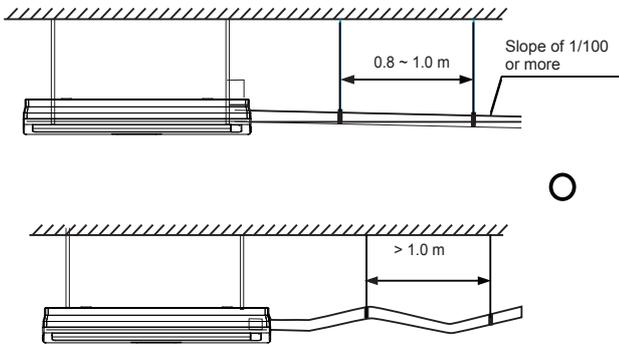

Figure 5.1
4. In order to prevent the back-flow of water into the interior of the air conditioner when the operation stops, during installation, make sure the water discharge pipe slope downwards towards the outside (drainage side) at a slope of more than 1/100. Make sure that the water discharge pipe does not swell or store water, otherwise it will make unusual sounds. See Figure 5.1.
5. When connecting the water discharge piping, do not use force to pull the pipes to prevent the water suction pipe connections from coming loose. At the same time, set a supporting point at every 0.8~1 m to prevent the water discharge pipes from bending. See Figure 5.1.